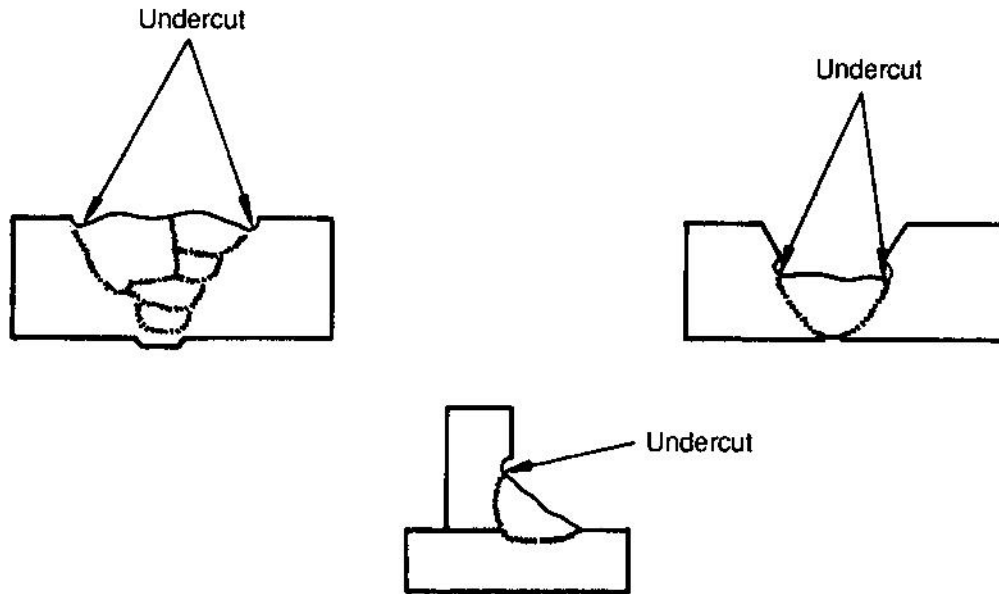

Figure 3-4 Undercut
(5) Undercut (fig. 3-4): Measure any undercut using appropriate measuring devices and check it against the acceptance criteria. The use of modelling clay is particularly convenient for checking undercut.